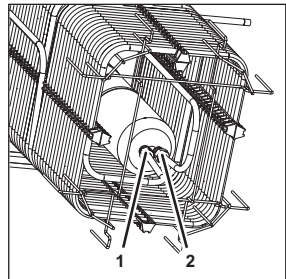

Figure 88
12. Disconnect the soda cooling line from the coupling (Figure 88/1).
13. Disconnect the soda water line from the coupling (Figure 88/2).
18. Attach the soda water line to the coupling (Figure 88/2).
19. Attach the soda cooling line to the coupling (Figure 88/1).